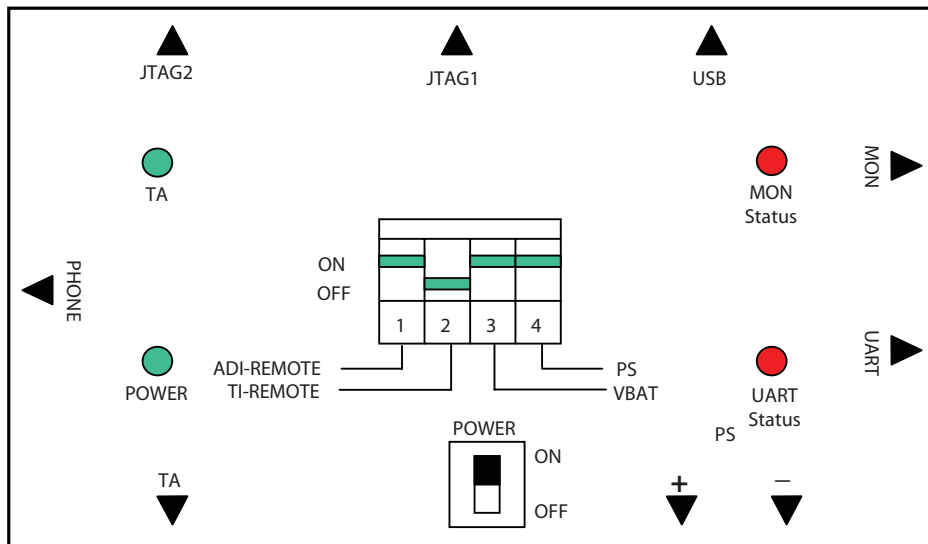

Figure 11.2.2 The top view of Test JIG
1. Connect as Fig 11.2.2 (RS232 serial cable is connected between COM port of PC and MON port of TEST JIG, in general.)